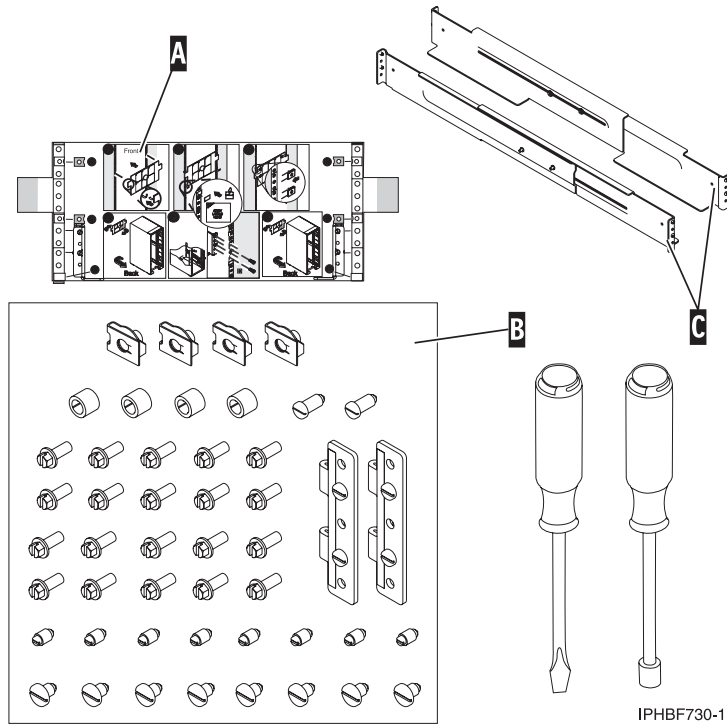

Figure 81. Parts inventory
3. Locate the rack-mounting template **(A)**, the rack-mounting hardware kit **(B)**, and the system rail assemblies **(C)** that were included with your expansion unit. See Figure 81 on page 82 for the relative locations of these items. The system rails are identical.